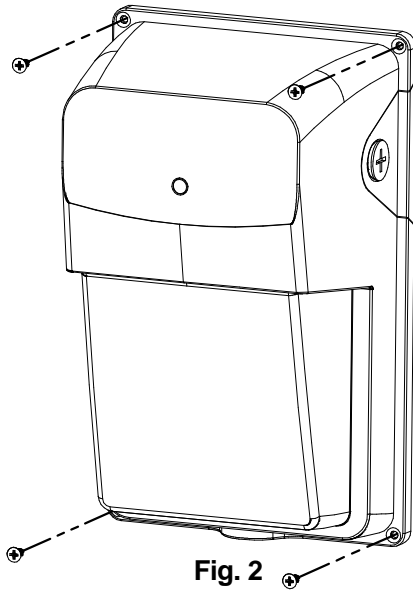
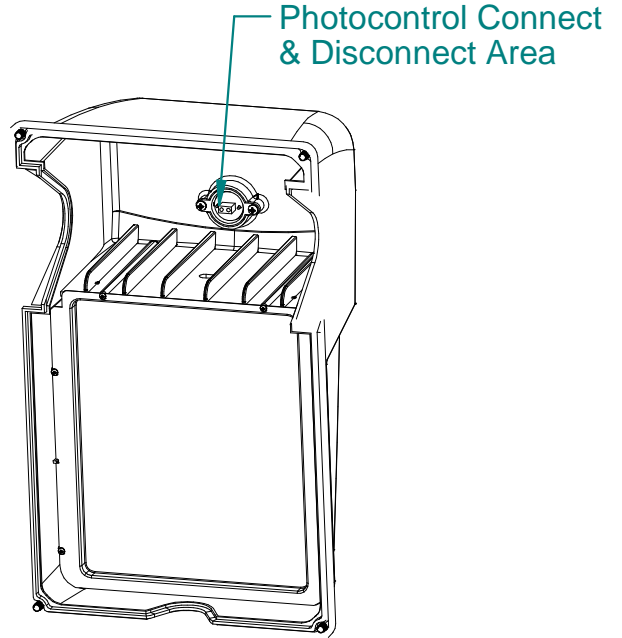

Fig. 2
Fig. 3
- (See Fig. 2) Loosen the four front cover screws and slowly lift cover away. Grasp the white photocell connector and unsnap by using a gentle pull. This connector and wires are located inside of the lens cover photocell area (See Fig 3).
- Reinstall the parts removed in the earlier steps. **Important note: If you do not want the photocell to turn the light on and off based on the outside light level, all you need to do is not reconnect the white connector(see Fig 3).**